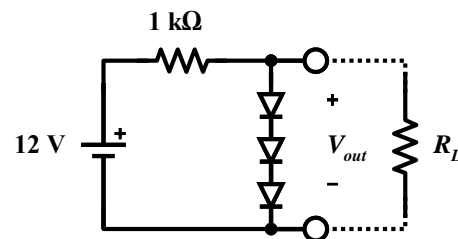

Figure 1-9 – Series clamp.
- Figure 1-9 shows another circuit with series-connected diodes. What is the output voltage this time? Construct using 1N4148s and 1N4005s (leave out the load resistor  $R_L$  for now), and record the output voltage. Vary the supply voltage  $\pm 2V$  and record how much the output voltage changes.
- Using the decade box at your bench, place a load resistor across the output of the circuit as shown in Figure 1-9. Starting with a load resistance of  $1k\Omega$ , steadily decrease the resistance until the output voltage deviates by more than 20%. Can you understand what is happening? For large load resistance the diodes “clamp” the output at 3 forward voltage drops, but at some critical load resistance this is no longer possible, and the circuit behaves more like a resistive voltage divider.